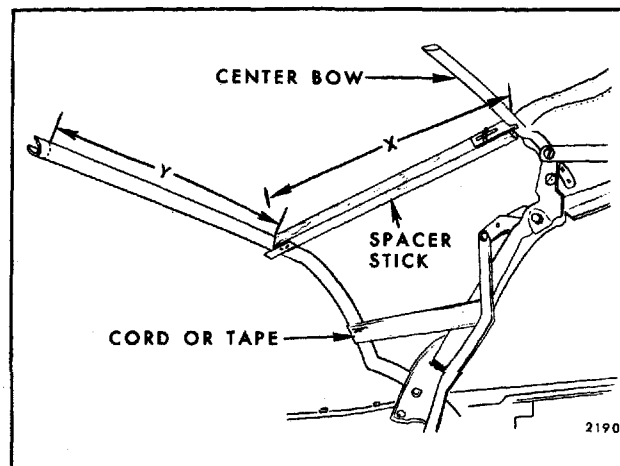

Fig. 6-10—Spacer Stick Installation
24. Lock top to windshield header. Install radius end of each adjustable spacer stick to fit against center roof bow. Install opposite end of spacer stick so that metal plate fits under rear roof bow. Spacer sticks should be installed along inboard edge of side stay pad (Fig. 6-10).
NOTE: The approximate dimension for location of spacer sticks, measuring outboard from centerline dimple of rear roof bow, is 19-3/4" for "B & C" Body Styles, 15-1/2" for "Z" Body Styles and 19-11/16" for "A" Body Styles. (See Dimension "Y" in Fig. 6-10.)
26. Temporarily tie or tape rear bow to rear side roof rails. (See Fig. 6-10.) Detach nylon webbing, side stay pads and back curtain assembly from rear bow.
1. If new top is being installed but it was impossible to perform step 24 of removal procedure, pre-set spacer sticks to shortest length and install between center and rear roof bow (Fig. 6-10). Adjust sticks so that
dimension "X" in Figure 6-10 (measured along spacer stick from front upper rolled edge of rear roof bow to center of center bow) is 14-7/8" on "B & C" Styles, 16-5/8" on "Z" Styles and 16-1/4" on "A" Styles. Tie or tape rear bow to rear side roof rails.